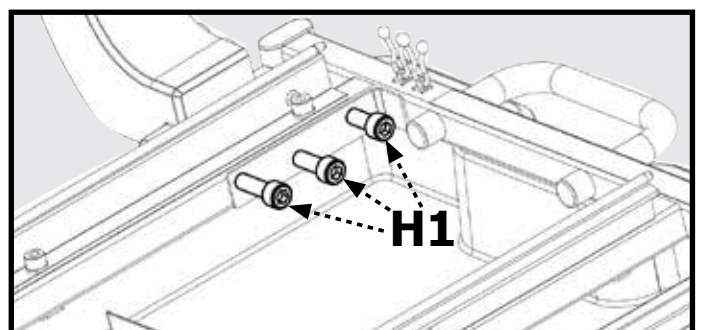

Figure 7
2. Fasten the Saw Arm Assembly by using the three M10 X 60 Hex Head Screws (H1) and the 8mm Allen Wrench (H2) as shown in Figure 7.